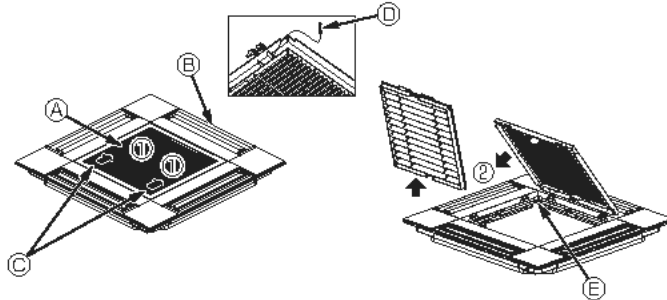

Fig. 10-3
- ① Main unit
② Ceiling
③ Gauge (Accessory)
④ Ceiling opening dimensions
10.2.1. Removing the intake grille (Fig. 10-3)
- Slide the levers in the direction indicated by the arrow ① to open the intake grille.
- With the intake grille in the "open" position, remove the hinge of the intake grille from the grille as indicated by the arrow ②.
- ① Intake grille
② Grille
③ Intake grille levers
④ Grille hook
⑤ Hole for the grille's hook